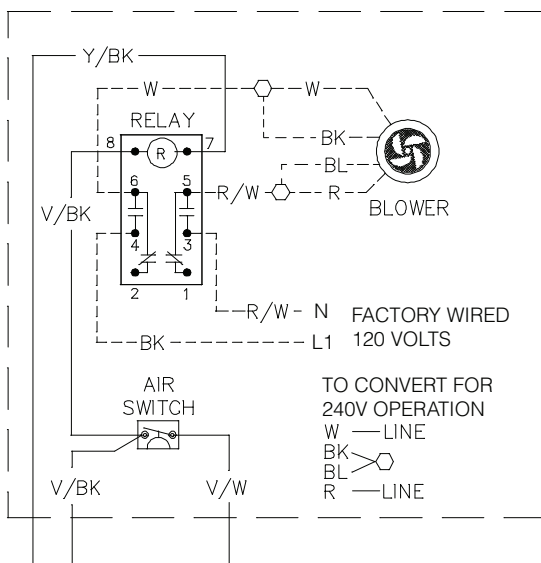
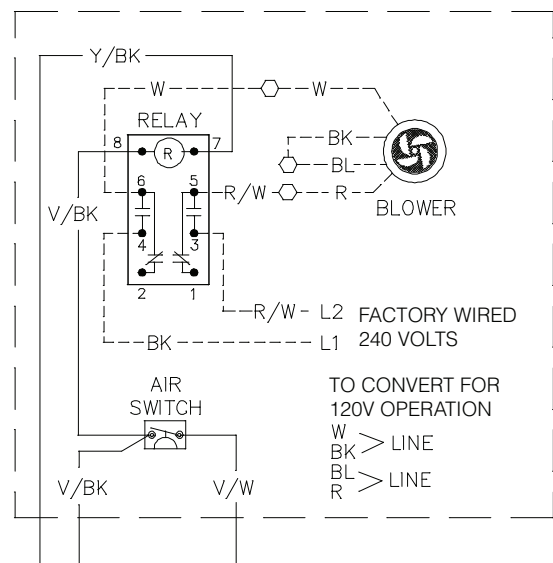

Fig. 15
Fig. 16
**Additions:** 268 and 408 Raypak Professional models on pages 1, 3, 4, 6 and 15, Fig. 15 and Fig. 16 on page 7, Wiring Diagram on page 21
14. Wire the heater power lines along with the D-2 Power Vent power lines to the supply power per Fig. 15 for 010744 or 010745, and per Fig. 16 for 009832 or 009833. If the D-2 does not match the power supplied, re-wire the blower for the correct voltage.